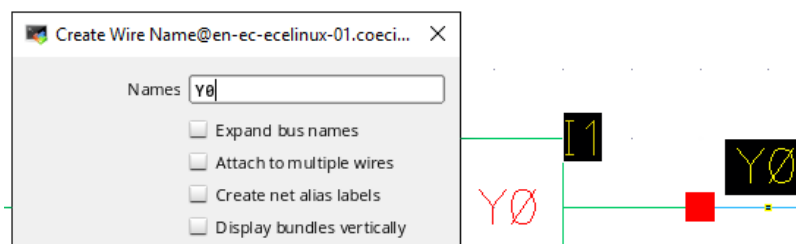

Figure 1: Adding a net label.
2. Label the decoder's input and output nets. To do so, in the Schematic Editor window, go to "Create" → "Wire Name..." (or press "L" on your keyboard). As shown in Fig. 1, write the net's name in the "Names" field, and then click the desired net in the schematic window. **Remark:** Make sure to use the names "A" and "B" (uppercase) for the decoder's inputs, as well as "Y0", "Y1", "Y2", and "Y3" (with uppercase "Y" and without quotes, obviously) for its outputs. The net names must be as described above so that they match the ones that have been hard-coded in the MATLAB testing file.